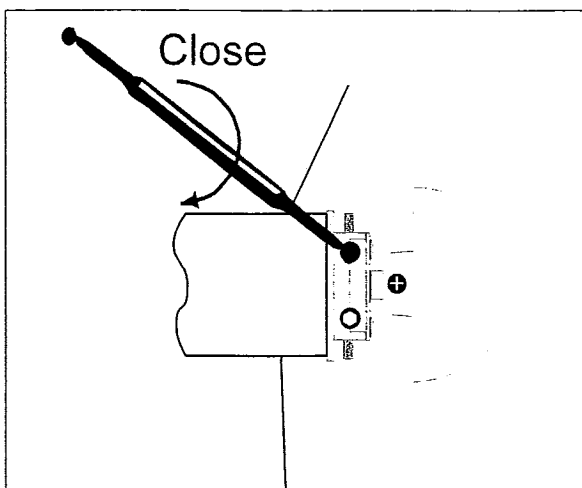

Figure 7
8. Adjust "Open" limit (Fig. 7 & 9)
Turn the upper socket *clockwise* (Fig. 7) to close the awning more. **Use extra caution when adjusting for closing.** The roller will stop if *either* the limit switch is reached *or* there is no fabric left to wrap around the roller and the motor breaker in the control box may pop up and need to be reset. Continue to adjust the limit switch until all excess fabric is wrapped around the roller and the roller is held firmly against the vehicle. Properly adjusted, you should be able to manually pull the roller (Using the main arms) slightly (about 1/2") away from the vehicle.